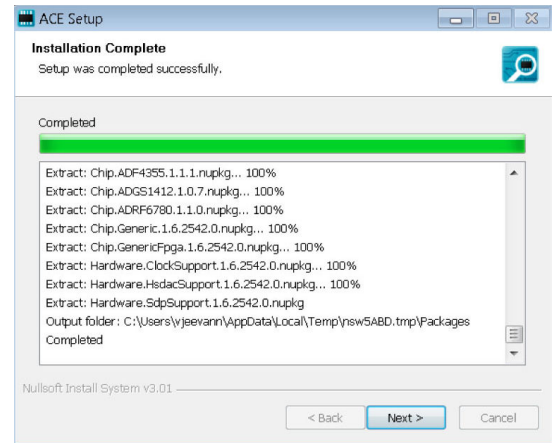

Figure 16. Installation Complete
9. When the installation is complete, click **Next >** (see Figure 16), and then click **Finish** to complete the installation process.